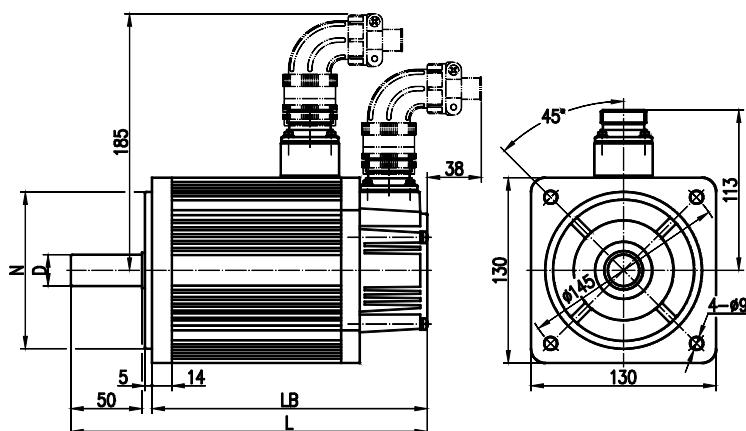

Fig. 3
5.3 Refer to figure 3 and list 9 about **130SJT**, **130SJTE** and **130SJTA** series motor overall installation dimension.